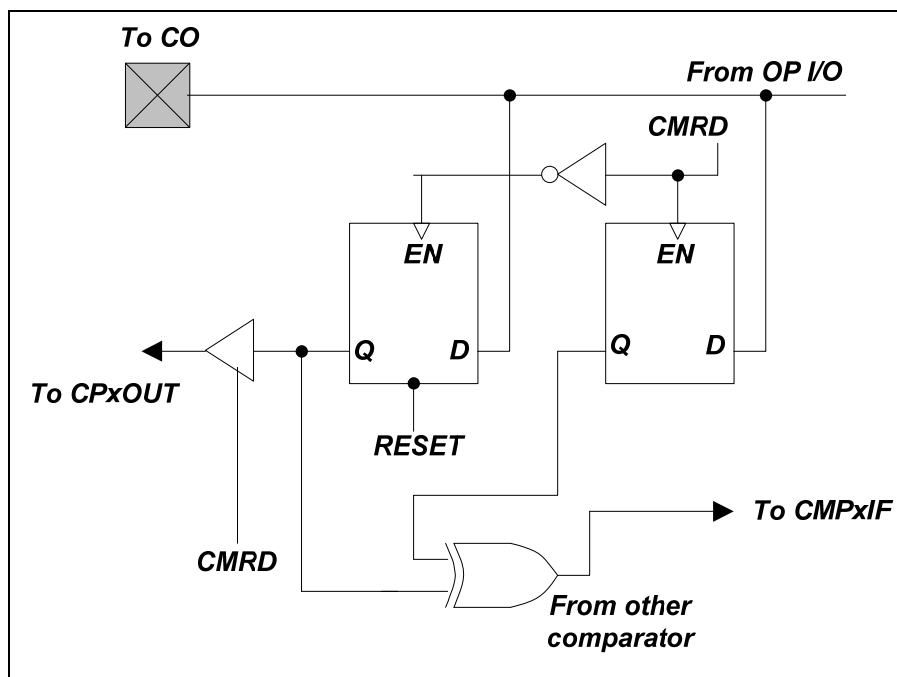

Figure 6-37 Comparator Output Configuration
- Figure 6-37 shows the comparator output block diagram.